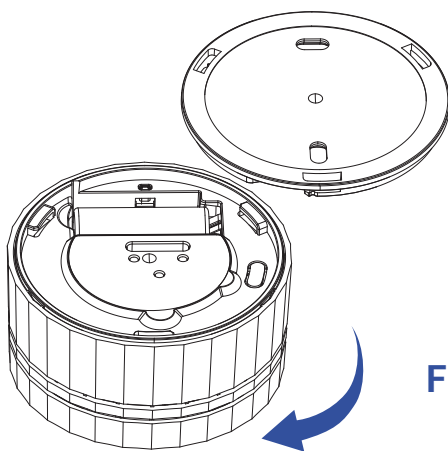

**Figure 3**
1. Remove the mounting bracket from the back of the alarm by holding the mounting bracket and twisting the alarm in the direction indicated on the alarm cover. (See Figure 3)